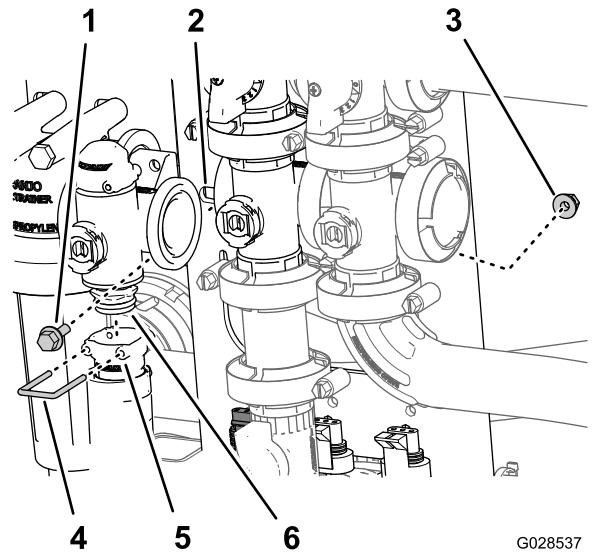

Figure 84
2. Remove the retainer that secure the outlet fitting to the manifold for the rate control valve (Figure 84).
3. Remove the 2 flanged-head bolts and 2 flanged locknuts that secures the rate control valve to the valve mount and remove the valve manifold from the machine (Figure 84).